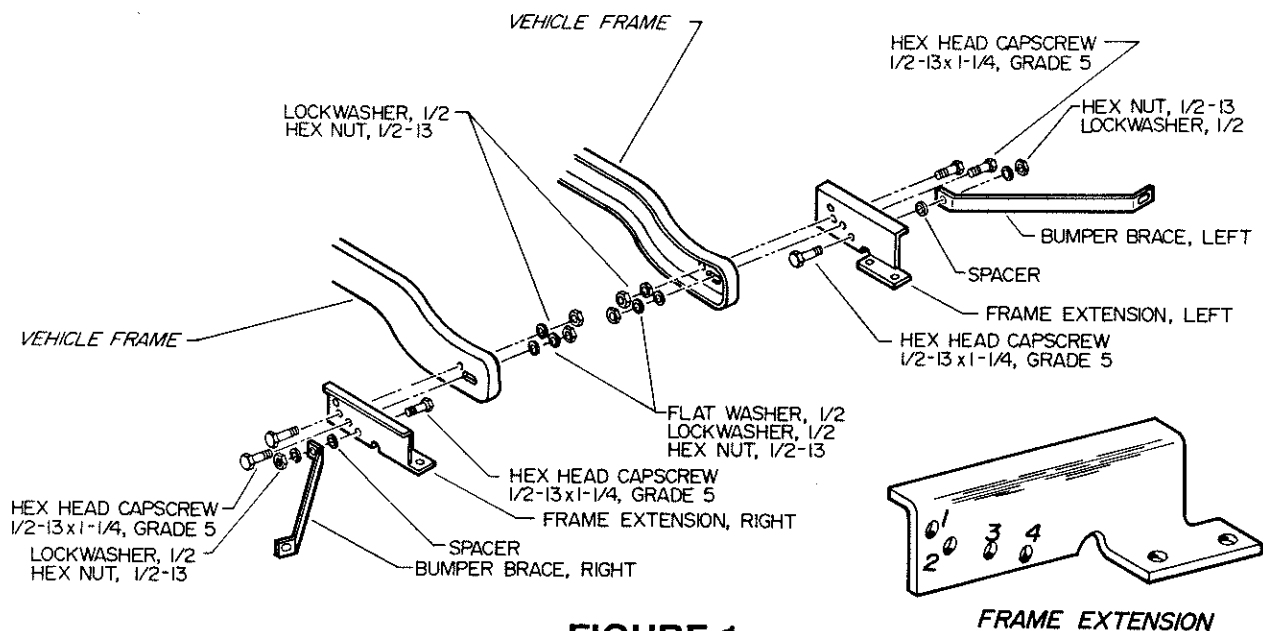

FIGURE 1
2. Align the hole indicated as #3 in frame extension with elongated hole in frame and attach with a 1/2-13 x 1-14 hex head capscrew, flat washer, lock washer and hex nut. Level the frame extension and using hole #2 as a guide, drill a 1/2" diameter hole through frame. Secure frame extension through this hole with a 1/2-13 x 1-1/4 hex capscrew, lock washers and hex nut. Leave bolts finger tight so kit be aligned later. Repeat for opposite side. (See Figure 1)
3. Attach the bumper brace to hole shown as #4 in frame extension with a 1/2-13 x 1-1/4 hex capscrew, lock washers and hex nut. (See Figure 1)